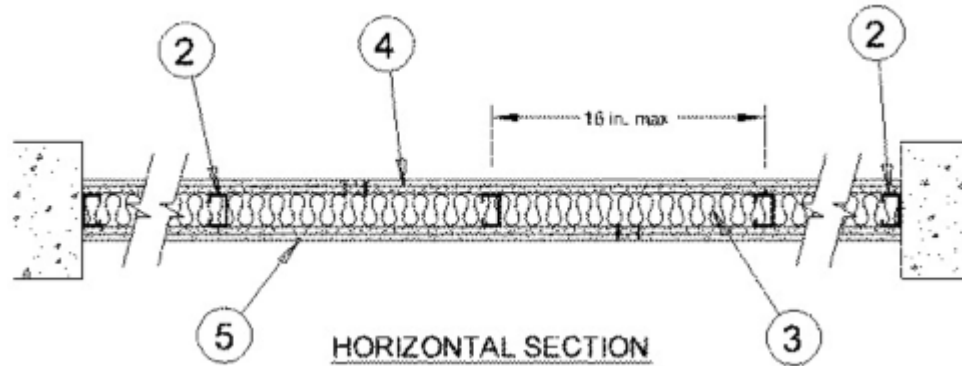

FIGURE 1—Nonbearing Wall Rating-1 HR.
4.2.1 Fire-resistance Wall Rating: The fire-resistance-rated assembly shown in Figure 1 is based on a UL design. Homasote 440 SoundBarrier® may be used in fire-resistance-rated wall assembly when constructed as indicated in the design. When using this assembly, all details must be in accordance with the specifications contained in the UL *BXUV GuideInfo*.